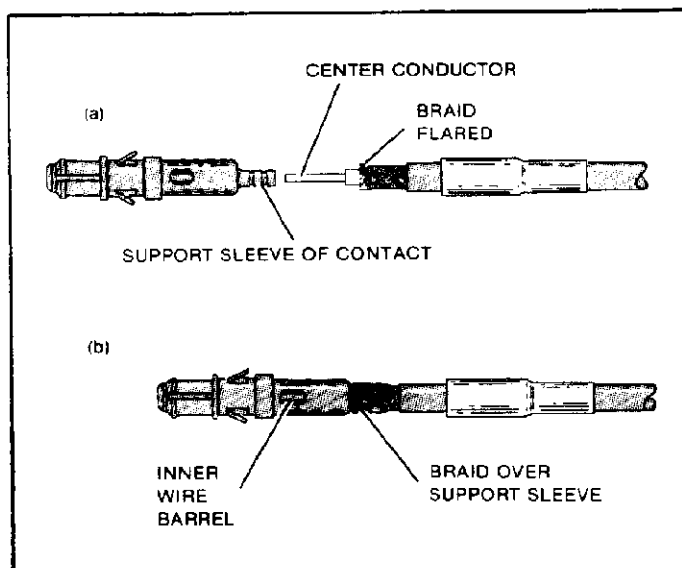

Figure 4
- Orient support sleeve with stripped cable as shown in Figure 4(a).
- Insert center conductor into inner wire barrel of contact until cable bottoms. Braid covers support sleeve. See Figure 4(b).